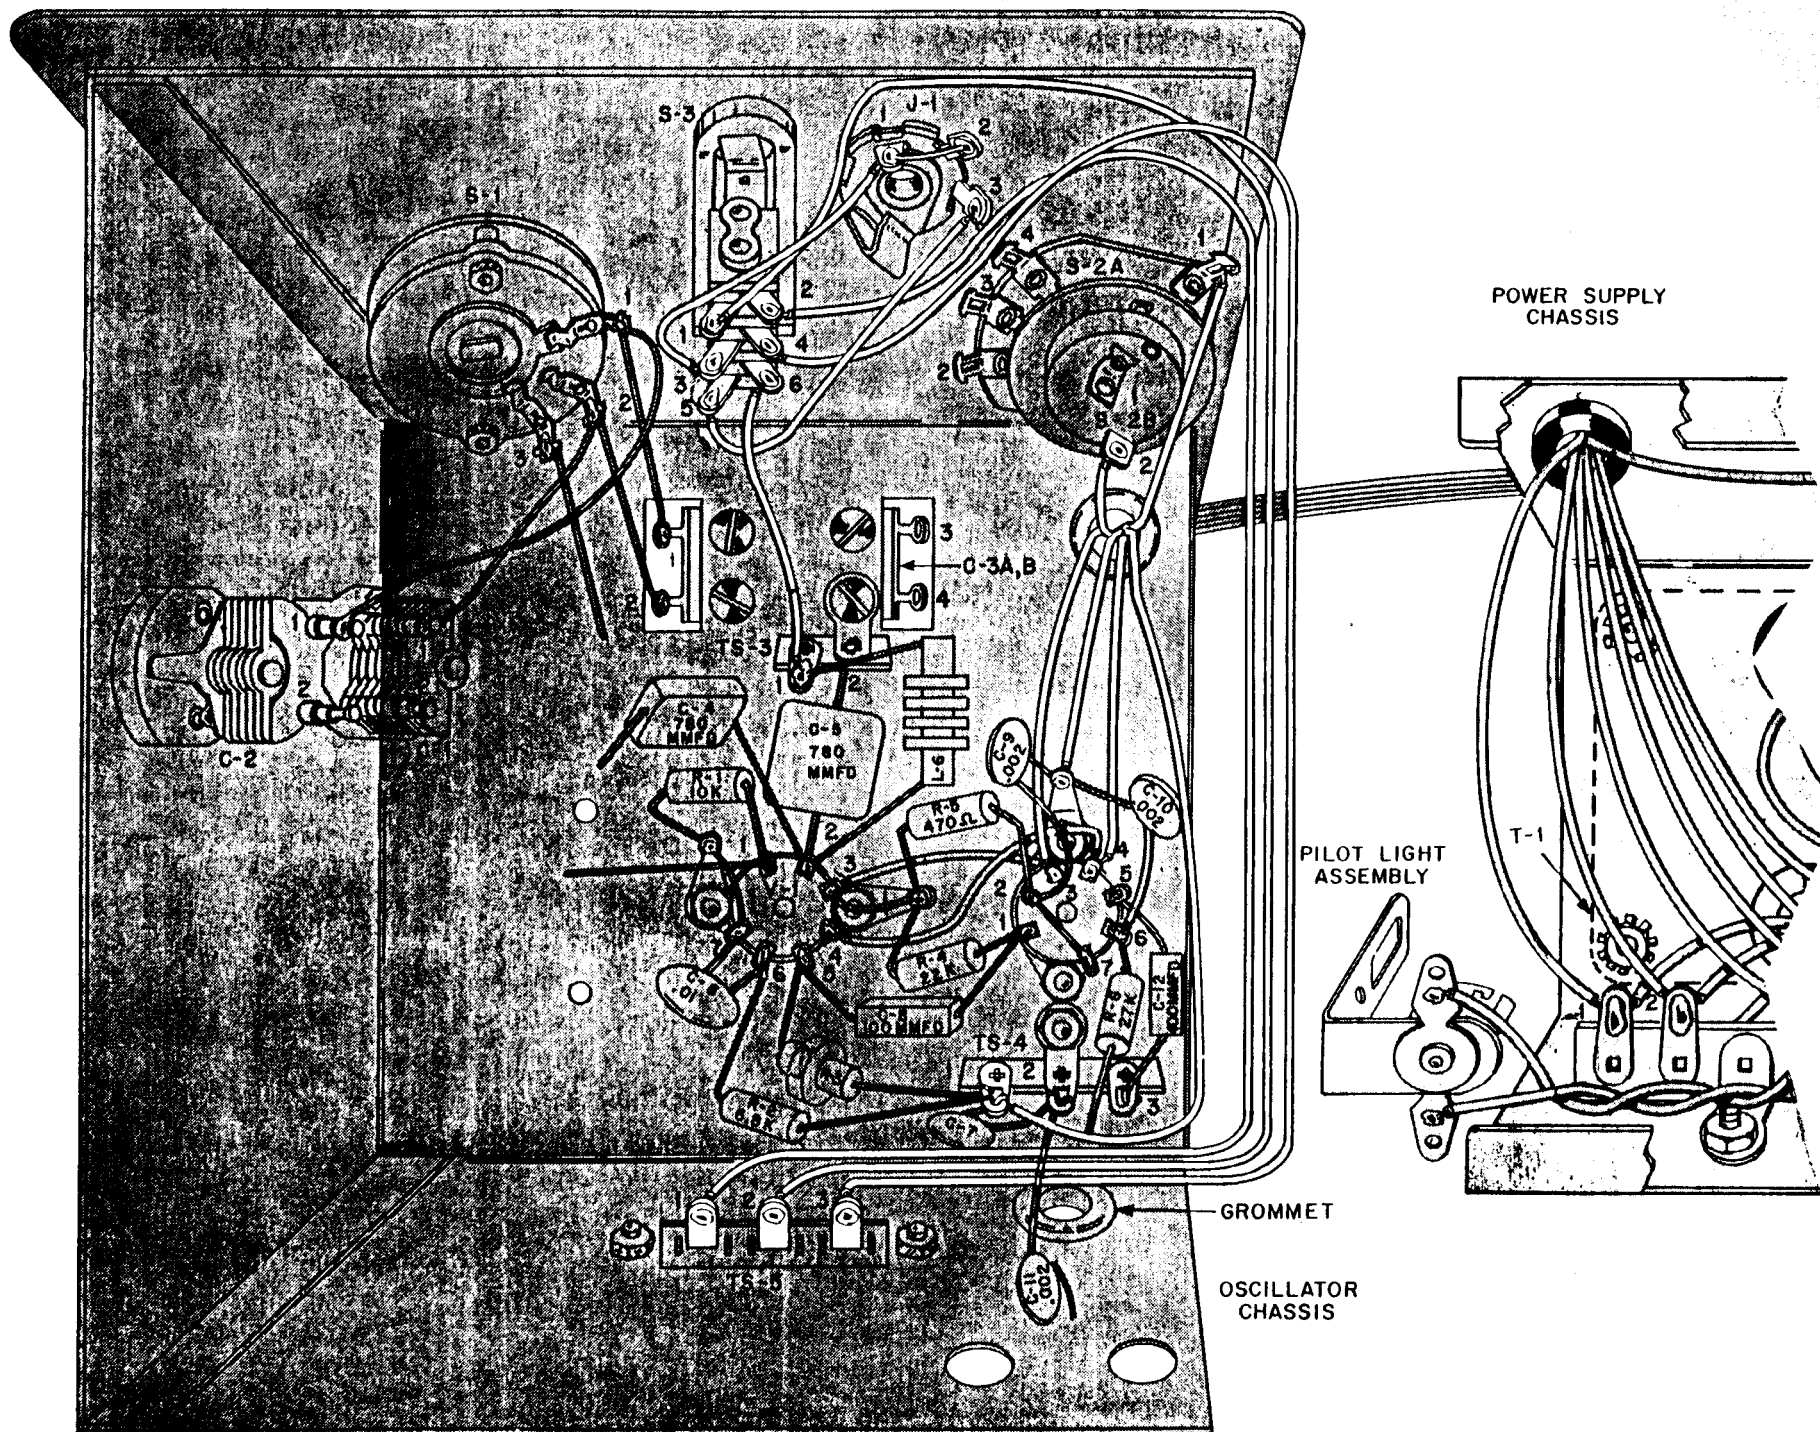

FIGURE 10. SECOND WIRING VIEW, OSCILLATOR CHASSIS AND WIRING BETWEEN THE POWER SUPPLY AND OSCILLATOR CHASSIS
#### SEE FIGURE 10.
- ( ) Solder one end of a white-orange wire to terminal 3 of TS-5. Bring it over to the edge of the open side of the chassis, along the side of the chassis to the front, and across to S-3, as shown in Figure 10. Solder the other end to terminal 4 of S-3.
- ( ) Check all of the work against Figure 10.